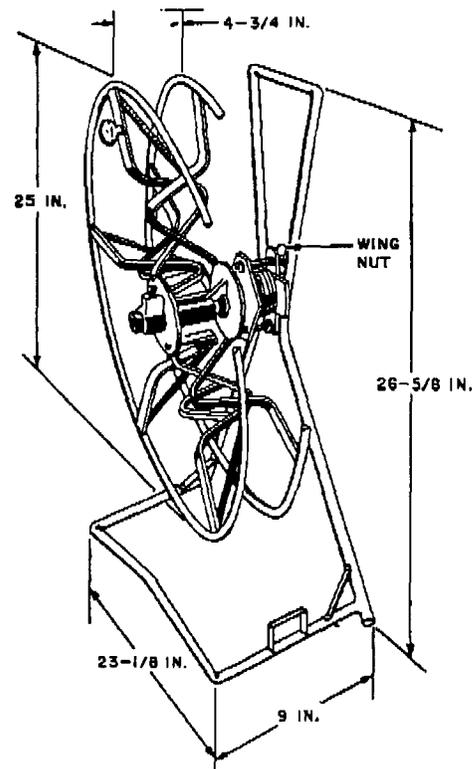

Fig. 4—C Drop Wire Reel
5.03 *The C drop wire reel* is shown in Fig. 4.